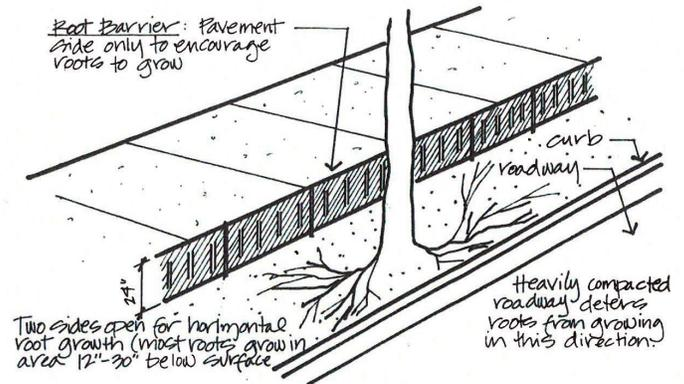

Figure 4 - Root Control Barrier
- The recommended minimum planting area is 4 ft. by 8ft. Root control devices should be used whenever the tree must be in a 48" square or smaller opening of a pavement area. They should also be used when a tree is planted in an area adjacent to pavement, within 5 ft. of the pavement. Any tree species, in most soils, will eventually damage surrounding pavement in openings less than 36" square without root control, and many will cause damage in areas of less than 48". While barriers help direct the tree's root growth downward, they should not be thought of as removing the need for proper species selection (See Figure 4).